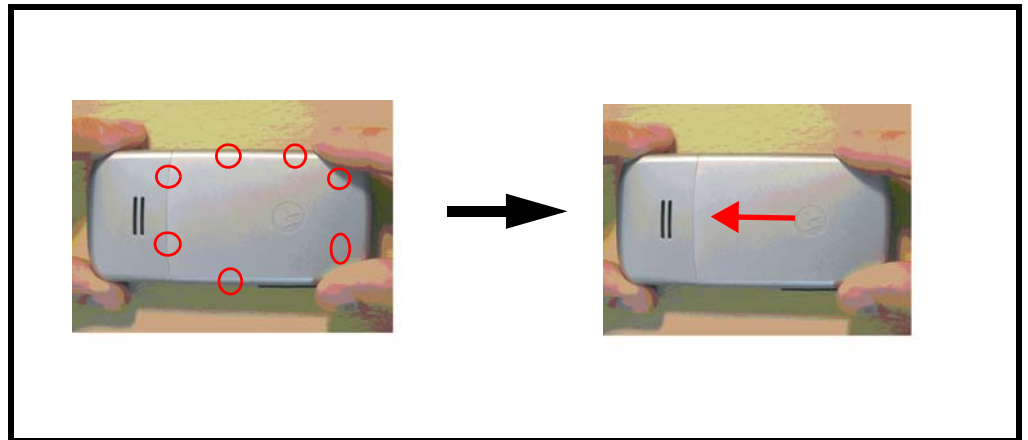

Figure 5. Replacing the Battery Door
3. To replace, the 7 side hooks should be aligned with the holes on the lower housing cover in Figure 5. Slide the battery door in the direction shown until it clicks into place and hear a click sound. Then completely replace the battery door.